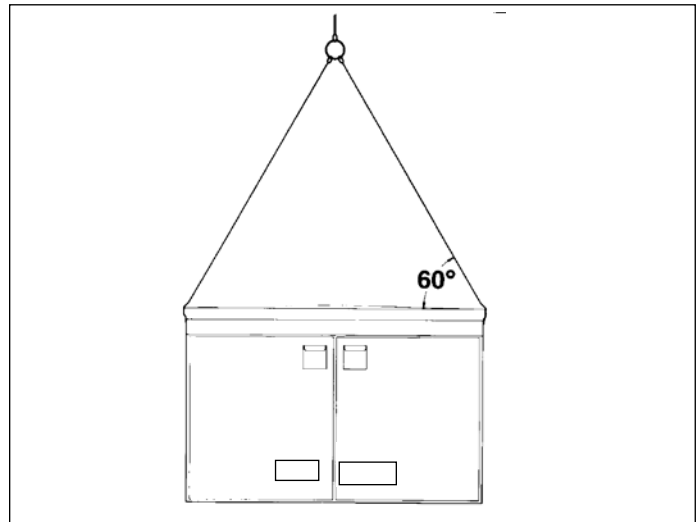
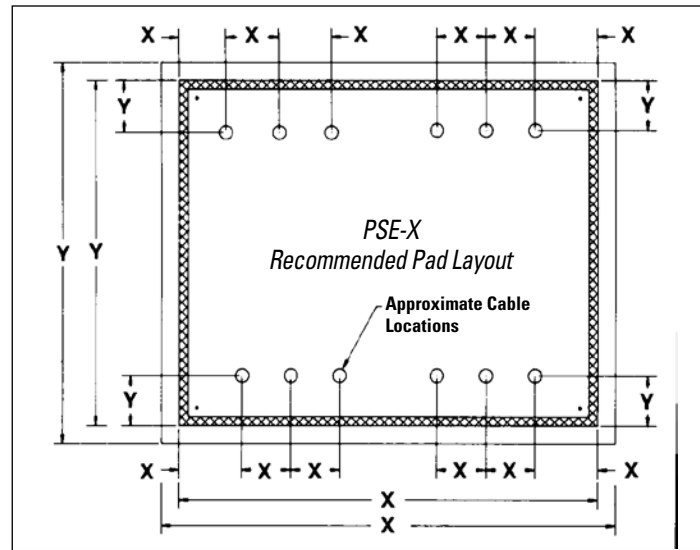
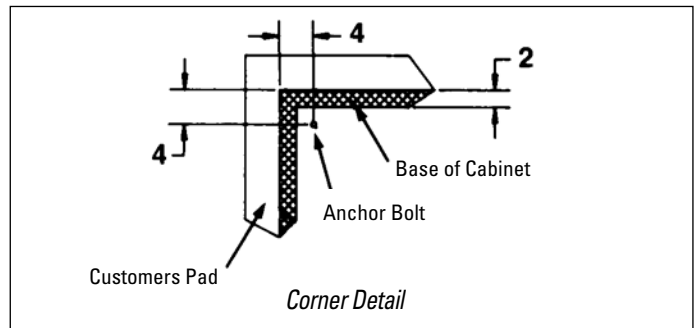

Figure 1. Lifting Method
Figure 2. Typical Pad Layout
Figure 3. Typical Anchor Bolt Location
Do not lift at an angle less than 60° from the horizontal. See Figure 1. Failure to comply with this requirement may result in damage to the equipment.
Remove unit from shipping pallet — one located at each corner of the unit in the interior at the bottom flange and — retain the four (4) tie-down plates to later secure the enclosure to the pad) per handling procedures on Page 3 (see Figure 1). When unit has been correctly oriented and placed on pad (see Figure 2), verify that unit is level and shim if necessary between unit base and pad. Secure unit to pad using four (4) tie-down plates as furnished (see Figures 3 and 4). Check compartment door operation for any binding due to enclosure distortion and re-shim if necessary. A recessed grouting should then be applied between unit base and pad to prevent entry of foreign objects and moisture.